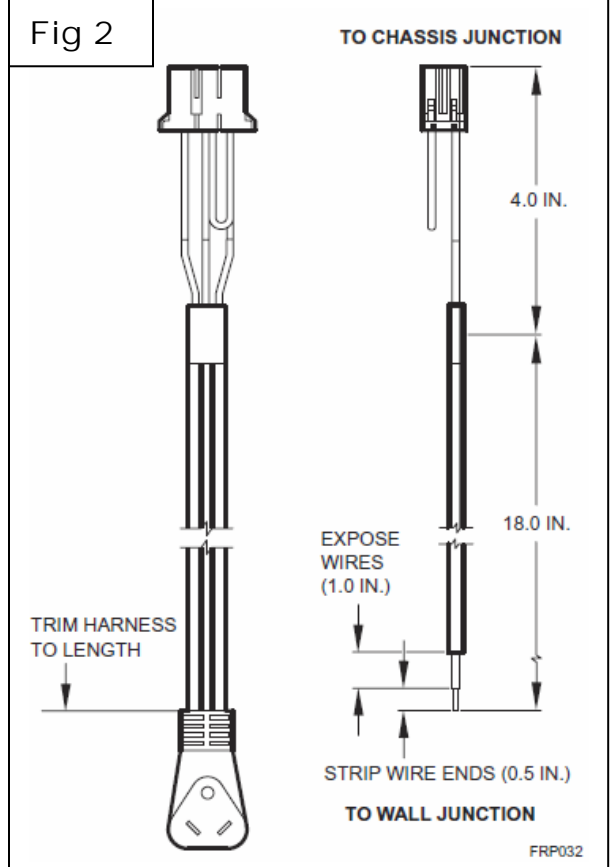

Fig 3
3. Route the cut end of power cord through the locknut, spacers, conduit connector, bushing, and flex conduit sleeve on the chassis's junction box (refer to Fig 3).
9. Clamp the power cord harness and conduit connector assembly with chassis's junction box cutout slot as shown in Fig 3. The clamping device is applied by screwing down the locknut and spacers application.